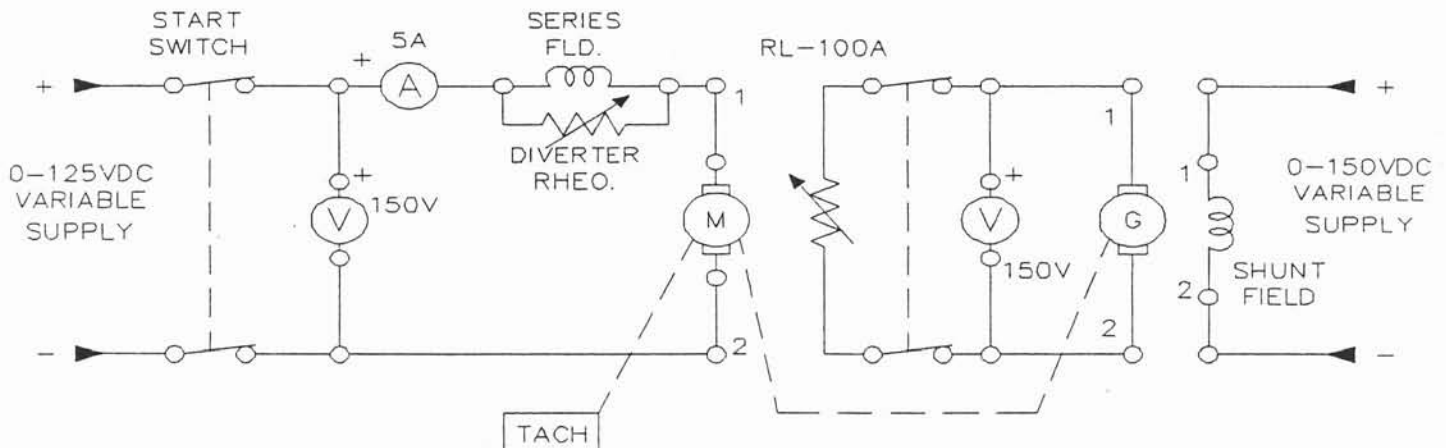

Figure 19-1
- Step 4. Connect the motor as shown in Figure 19-1. Note that this is a series motor connection. Set the diverter rheostat to 5 ohms (mid point) in parallel with the series field.
- Step 6. Connect the dynamometer as shown in Figure 19-1. Note that this is a separately excited generator connection. Note also that the shunt field rheostat is not being used.